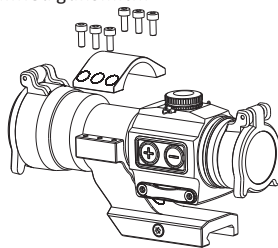

Fig 4
- 2) Mount the sight on the bracket and follow the orientation and position which are shown in Fig 4.